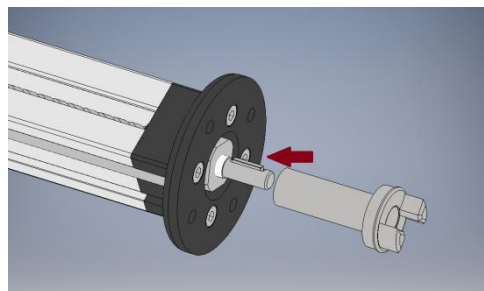

Figure 3
- 1) Orient the Lead Screw so that the key slot is in an upright position. Place the Screw Coupler Key in the key slot. Check the fit of the Screw Coupler at this time (Figure 3). It should not require a press fit but there should be no radial slop between it and the lead screw. Remove the Screw Coupler and set it aside but leave the key in the slot of the Lead Screw.